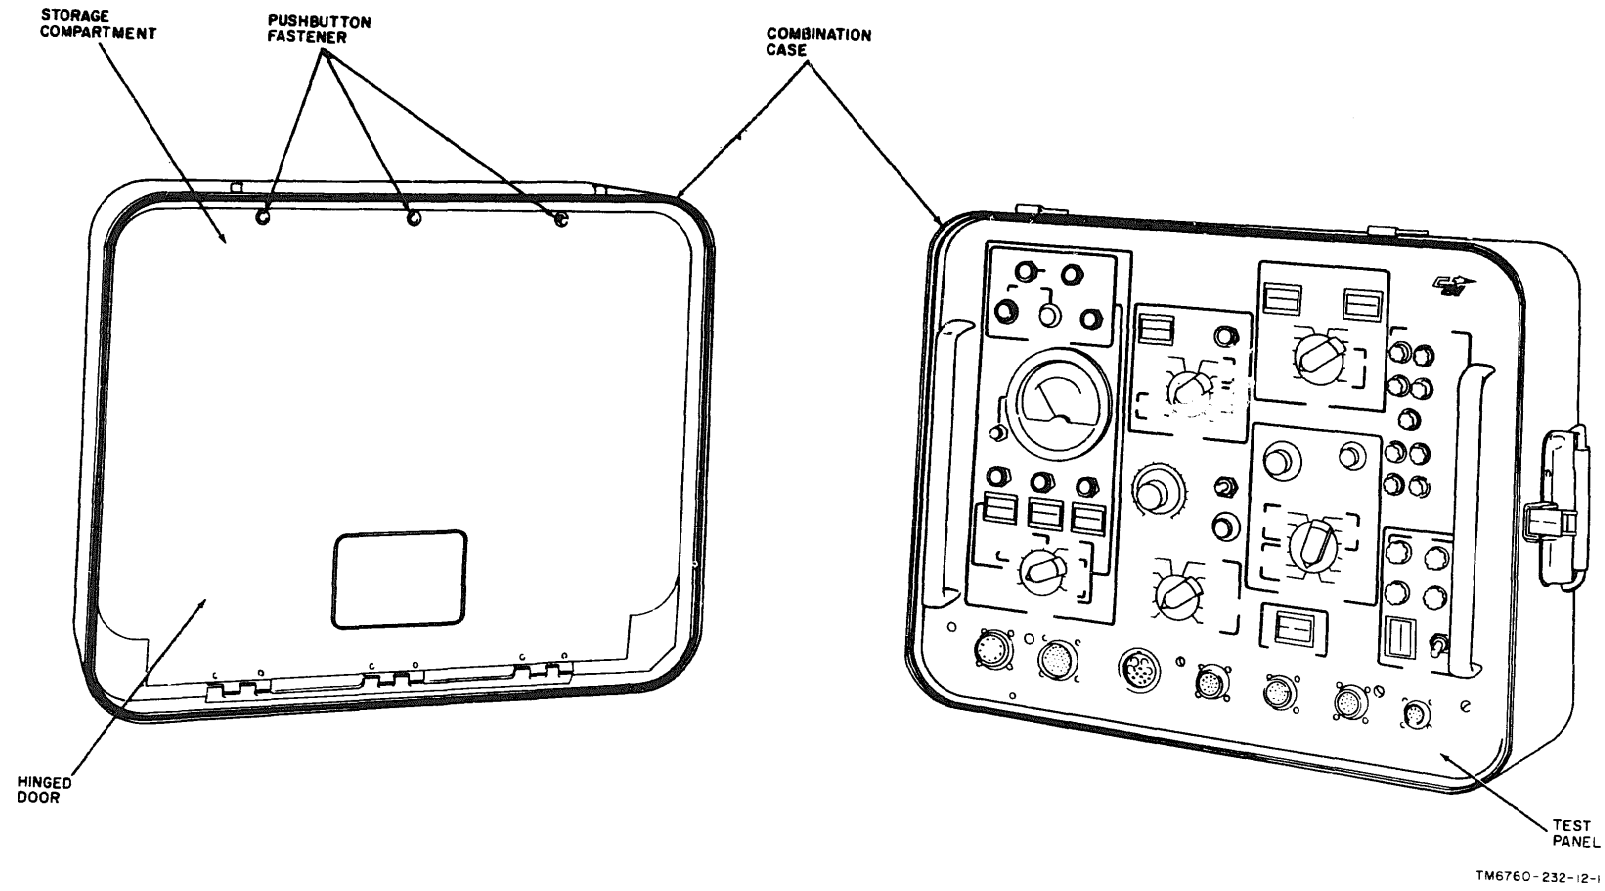

Figure 1-1. Test Panel, Test Set, Photographic Flasher System,
This manual describes Test Set, Photographic Flasher System, Bench LS-60A (bench test set) (fig. 1-1), and provides instructions for installation, operation, and operator and organizational maintenance. It includes instructions for operation under usual and unusual conditions, cleaning and inspection of the equipment, and replacement of parts available to operator and organizational maintenance.
1-4. Purpose and Use (Fig. 1-1)
a. Test Panel. The test panel (fig. 1-1) is a transistorized unit designed to test and troubleshoot the electronic flash system and its modules before installation in aircraft. All the controls, indicators, and connectors required to perform the functional and operational tests are mounted on the front of the test panel. The controls, indicators, and connectors of the test panel are divided into sections; each section is marked to indicate its use and the tests it performs. The MASTER test switch, used in conjunction with the sectionalized controls, indicators, and connectors, selects the mode of operation and the tests to be performed, permitting the operator to test and troubleshoot the complete electronic flash system or its modules. During testing, the electronic flash system or its modules are connected to the test panel through interconnecting cable assemblies through the connectors on its
a. **Combination Case.** The two-part combination case (fig. 1-1) houses the test panel of the bench test set. The combination case is joined by two separable hinges along one side. Four snap latches secure the case cover to the case body. An air relief valve seals the combination case against humidity and dust, and permits